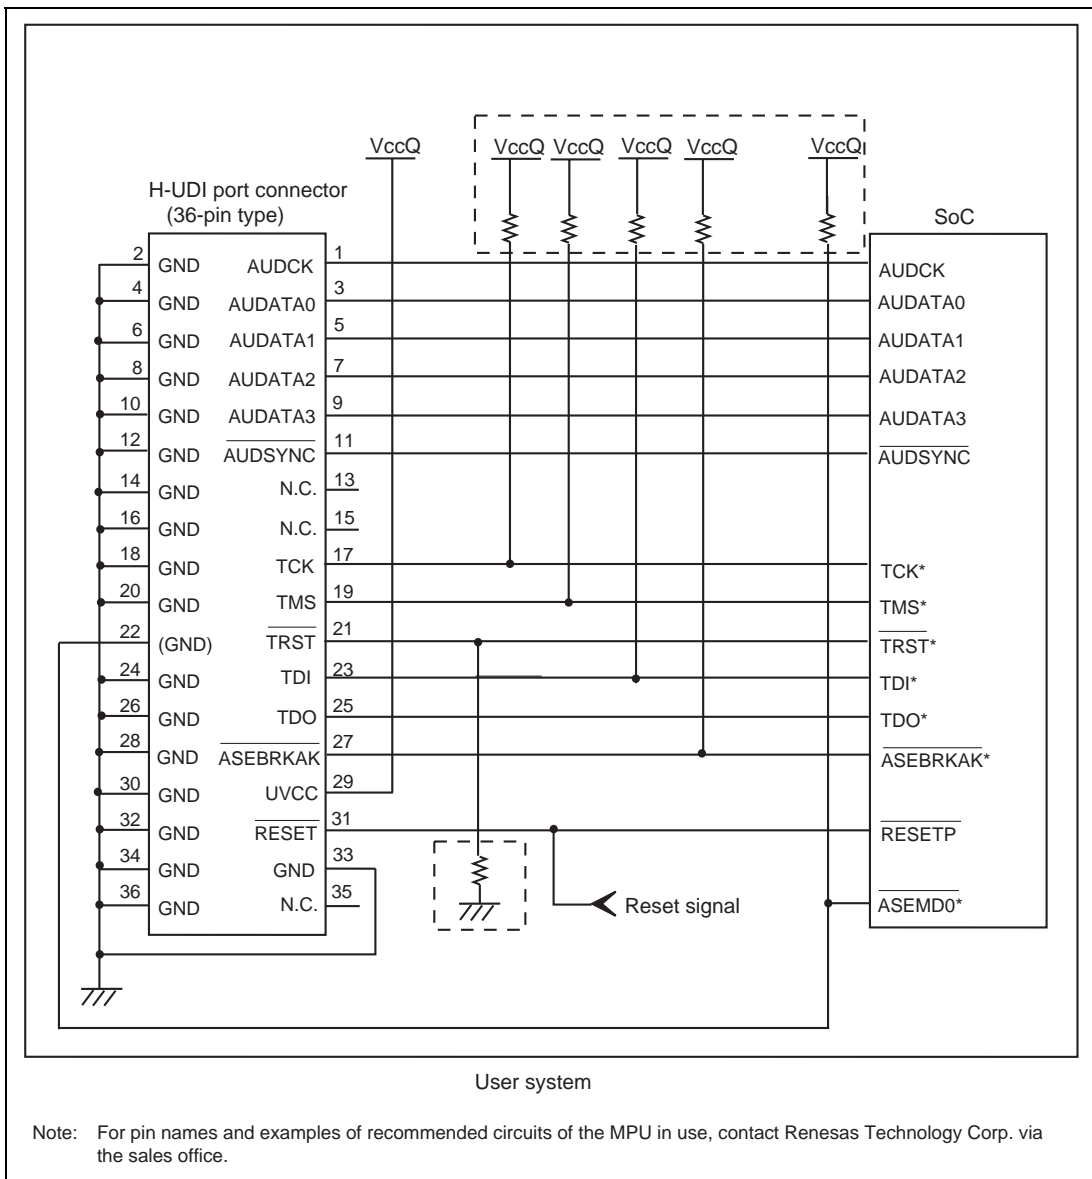

Figure 1.3 Recommended Circuit for Connection between the H-UDI Port Connector and MPU when the Emulator is in Use (36-Pin Type)
Figure 1.3 shows a recommended circuit for connection between the H-UDI and AUD port connectors (36 pins) and the MPU when the emulator is in use.
- (1) When the emulator is used: /ASEMD0 = 0
- (2) When the emulator is not used: /ASEMD0 = 1
Figure 1.3 shows an example of a circuit that allows the /ASEMD0 pin to be GND (0) whenever the emulator is connected by using the user system interface cable.
When the circuit is connected as shown in figure 1.3, the switches of the emulator are set as SW2 = 1 and SW3 = 1. For details, refer to section 3.8, Setting the DIP Switches, in the Debugger Part of the SuperH™ Family E10A-USB Emulator User's Manual.